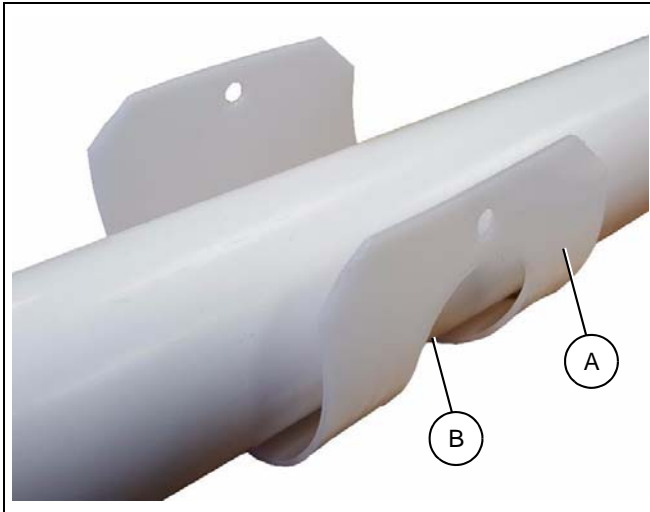

Figure 6D
2. Wrap a rotary slide (A) around the auger tube and align it with an outlet hole. (See Figure 6D.)